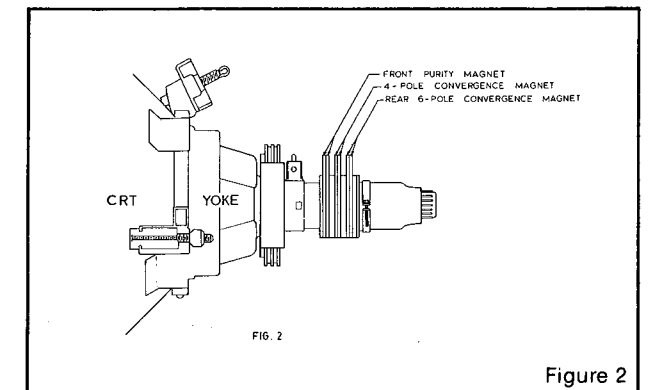
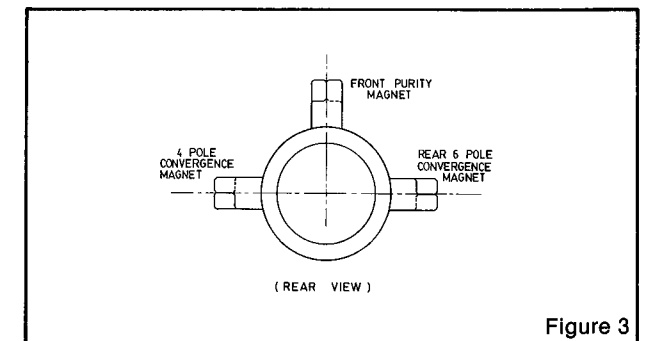

Figure 2
Figure 3
4.6	Crt. Cut Off Control (See Fig. 3)
4.7	Video Drive Control (See Fig. 3)
- 1.1 Loosen yoke clamp screw and positioning screw. Remove adhesive material from positioning screw. (Figure 2).
- 1.4 Move the tabs of each of the ring magnets: (purity magnets, 4 pole convergence magnets and 6 pole convergence) together as shown in figure 3. (See figure 2 for location of ring magnets).
NOTE: Static convergence is achieved by 2 sets of ring magnets located on the neck, nearest the base of the picture tube, Fig. 2. The 4 pole magnetic rings are adjusted to converge the blue and red crosshatch lines. The 6 pole convergence rings (closest to the base of the picture tube) are adjusted to converge the magenta (blue/red) to the green crosshatch lines. Dynamic convergence is achieved by tilting the deflection yoke rim up-down and left-right.